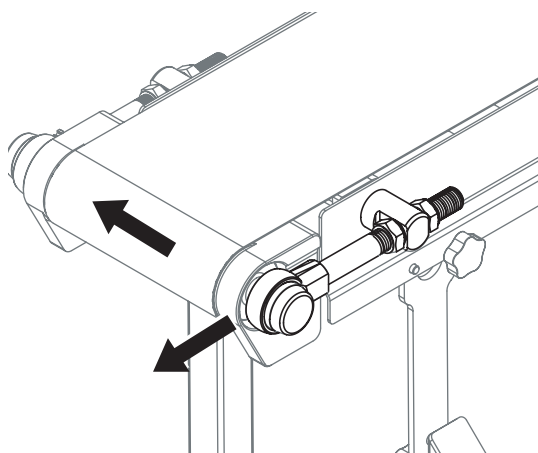

Figure 55
- b. Tighten the nut to increase the length of the idler tail shaft and move the belt away from that side of the conveyor (**Figure 55**).